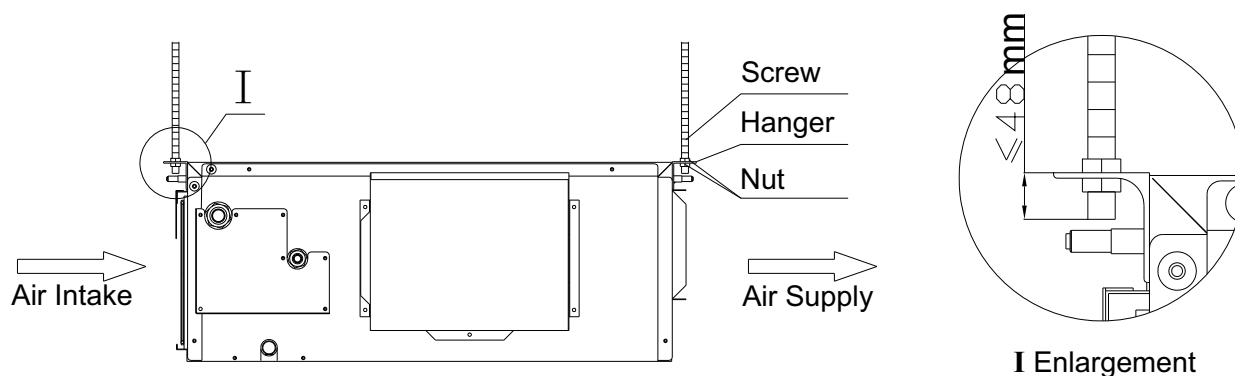

Figure 1-1-5
5) Install the indoor unit at the ceiling as Figure 1-1-5 shows.